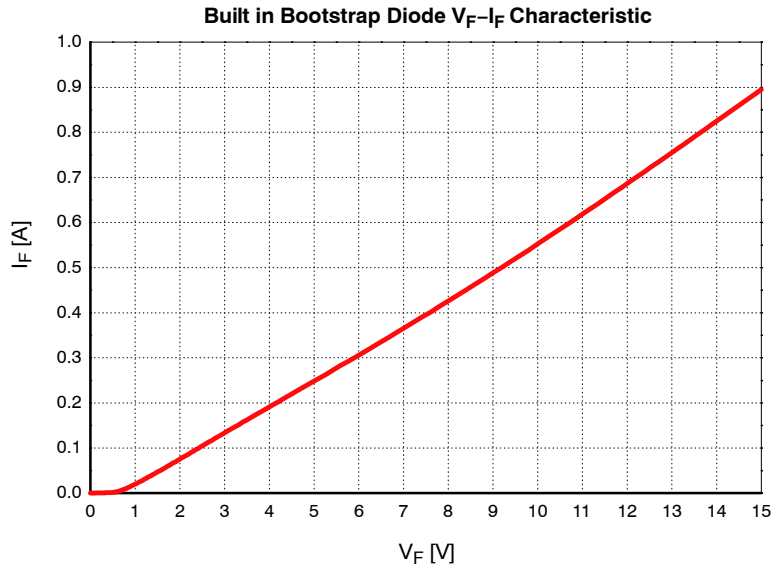

Figure 2. Built-in Bootstrap Diode Characteristics (Typical)
9. Built in bootstrap diode includes around 15 Ω resistance characteristic. Please refer to Figure 2.